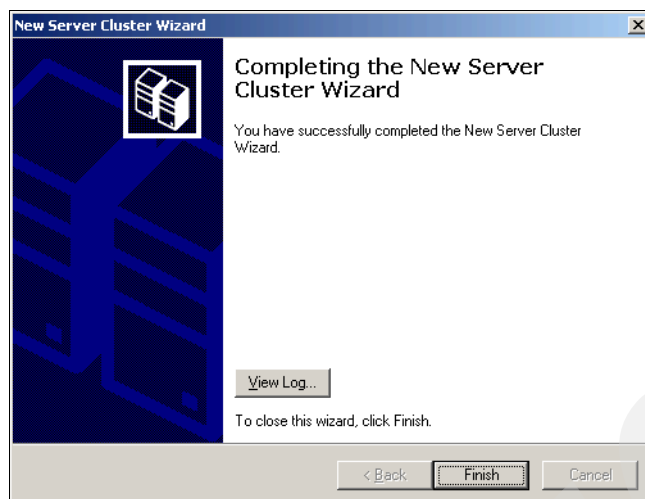

Figure 23-48 Finish server cluster wizard
11. Click **Finish** to close the wizard. A log is available that can be stored for future reference. See Figure 23-48.